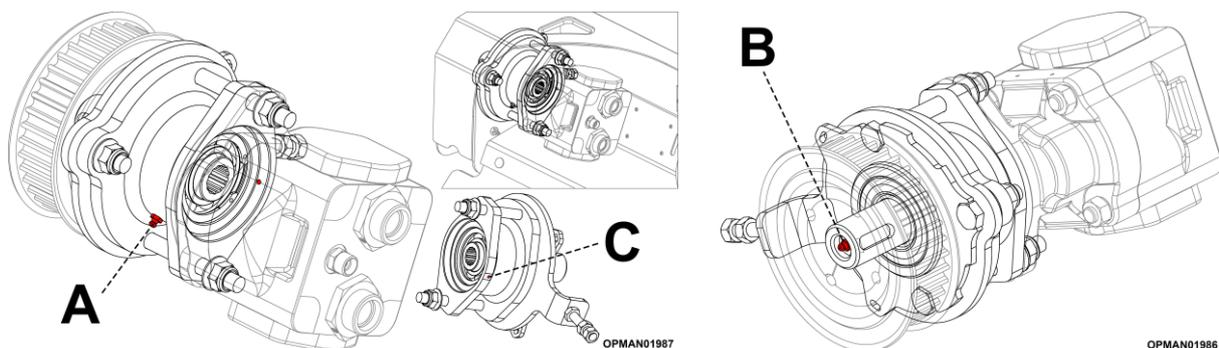

Figure 5.2 – Powerdrive Pro Pulley Support Bearing Housing
There are two grease nipples located on the pulley support bearing housing assembly which require regular greasing; reference Figure 5.2. The one on the pulley support bearing housing casing (A) greases the pair of ball bearings found inside. The second one is found on the end of the stub shaft (B), to lubricate the engagement splines between the stub shaft and output shaft of the hydraulic motor.